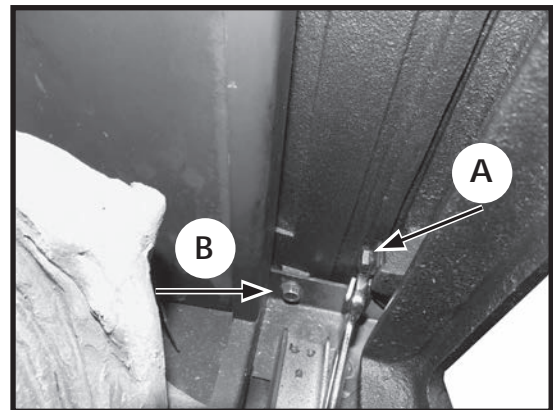

Fig. 96: Front panel bolt (A) and side panel bolt (B).
7. At the front, remove the lower side panel bolts (call-out **B** Fig.96) from both left and right side panels.